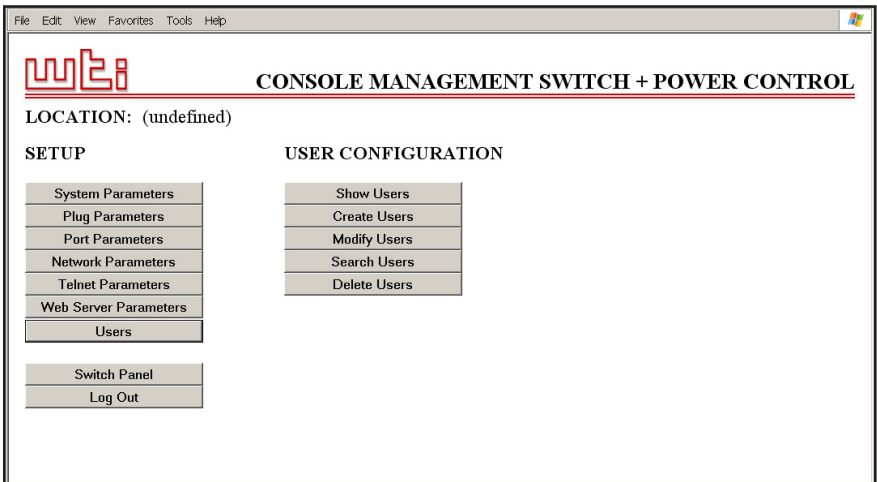

Figure 5.5: The Password Directory Menu (Web Browser Interface)
- **Web Browser Interface:** Click the "Setup" button to access the Setup Menus, and then click the "Users" button. The Password Directory Menu will be displayed as shown in Figure 5.5.